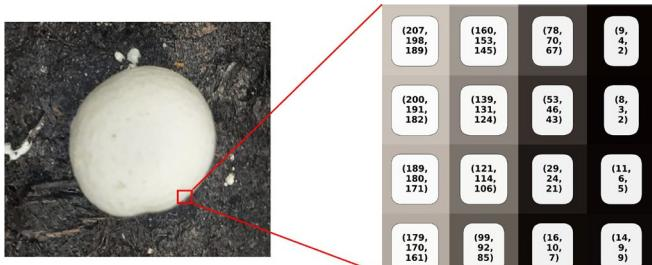

Figure 4. A mushroom against a dark background shows a sudden change in brightness, which the algorithm uses to mark the edge or boundary.
1. **Finding edges:** The algorithm scans the grayscale image to find sudden changes in brightness. For example, a white mushroom cap against a dark soil background creates a clear boundary, where bright pixels from the mushroom are placed right next to dark pixels from the soil. By comparing nearby pixels, the algorithm marks these changes as edges. It then draws the outline of each shape in the picture, such as the boundary of a mushroom shown in Figure 4.